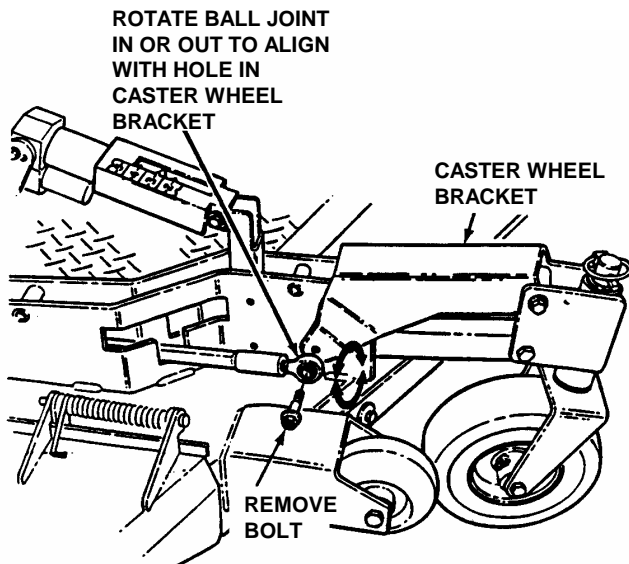

FIGURE 4.3
6. Remove both bolts (one from each side) from the front portion of the link weldment. See Figure 4.3. The front caster wheel will drop to the ground.
7. Turn ball joint in or out until ball joint anchor hole aligns with mounting hole. Reinstall bolt and tighten securely. Use same procedure on other caster wheel. See Figure 4.3.